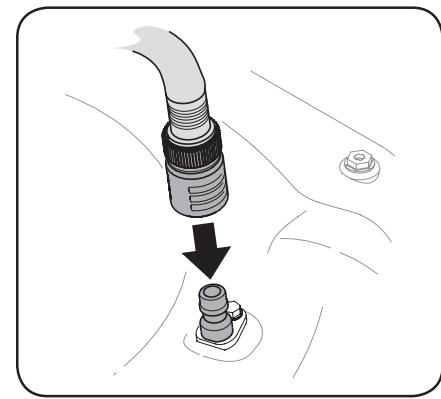

Figure 4-2
- Attach garden hose with the deck wash nozzle to the water port on your deck's surface. See Figure 4-2.